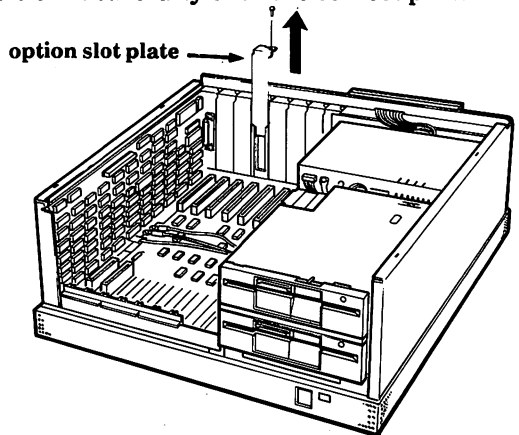

Figure 2-4. Location for modem option board.
8. Remove the screw and the option slot plate and set them aside. See Fig. 2-4.